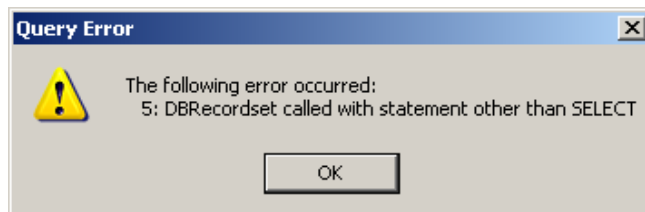

Figure 65: Example query error message when not logged into the software as an Omron Microscan administrator.
- Make sure you are logged into the software using an Omron Microscan administrator user name and password. Users not logged on as an administrator will receive the following Query Error message (Figure 65) when executing the command in the "Query" field.